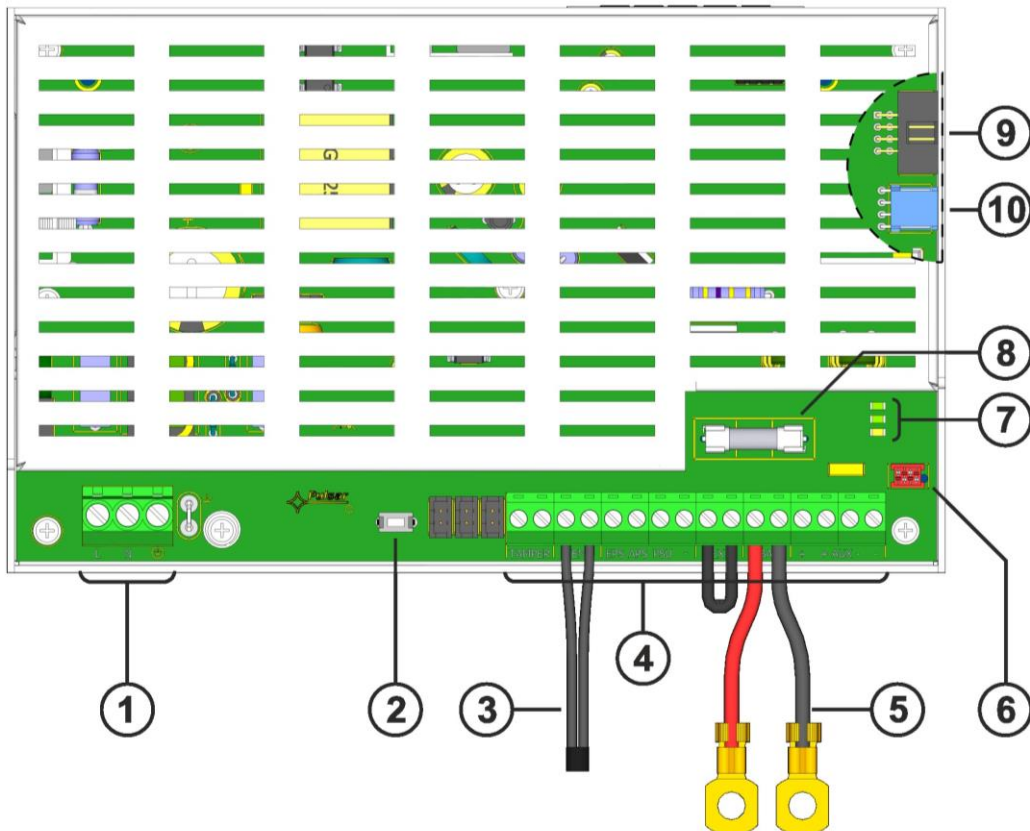

Fig. 2. View of power supply module.
Table 1. Elements of PSU PCB (Fig. 2).
①	PSU module (Tab. 1, Fig. 2)
②	Battery temperature sensor
③	Battery connectors; positive: BAT = red, negative: - BAT = black
④	A place for installation of additional communications modules
⑤	TAMPER; microswitch (contacts) of antisabotage protection (NC)
⑥	Fitting battery
⑦	Battery blocking plate
⑧	Screen module
6. Screw terminals of temperature sensor to "Temp" terminals of PSU (figure 2, point 3). Attach sensor to battery, e.g. with adhesive tape. For the 27.6V version, it is recommended to place sensor between batteries.